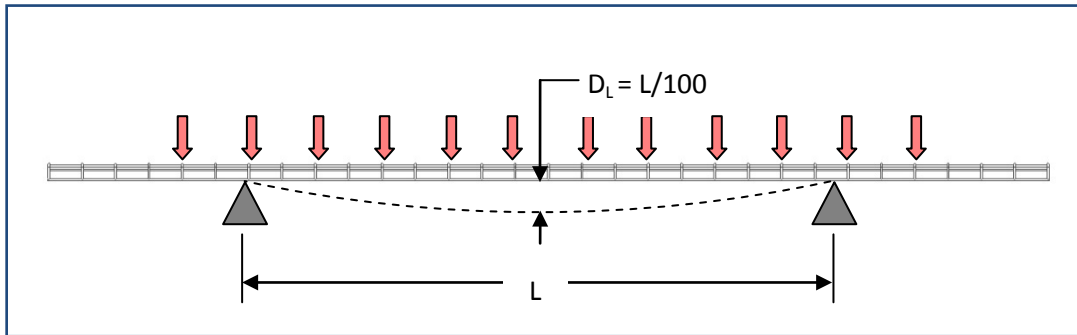
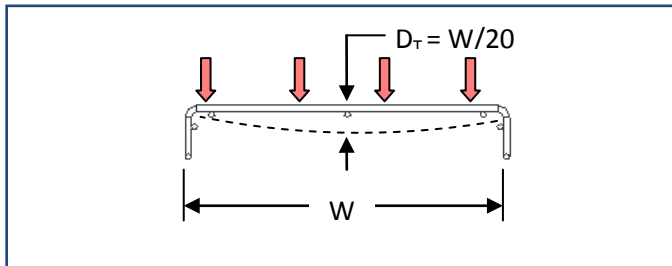
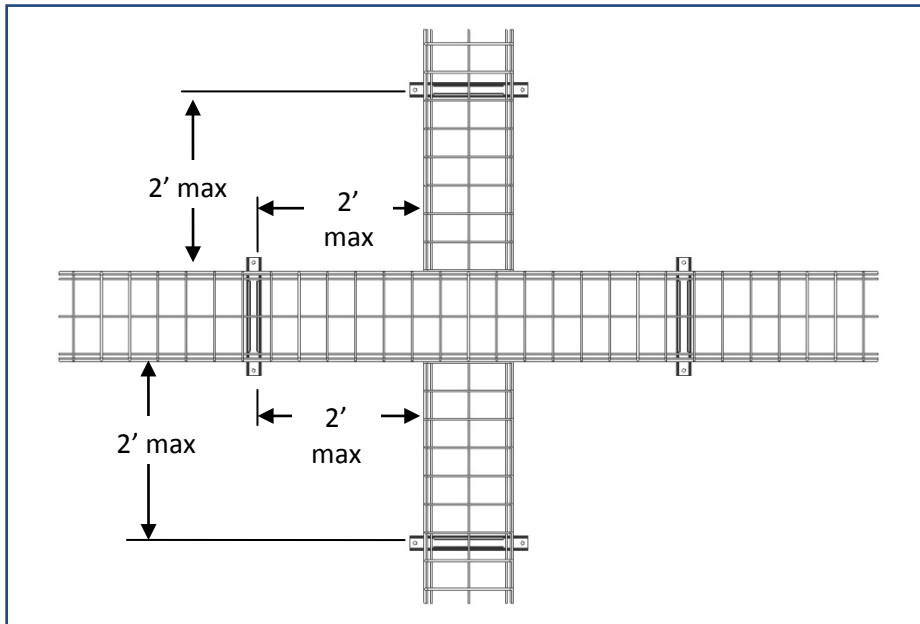
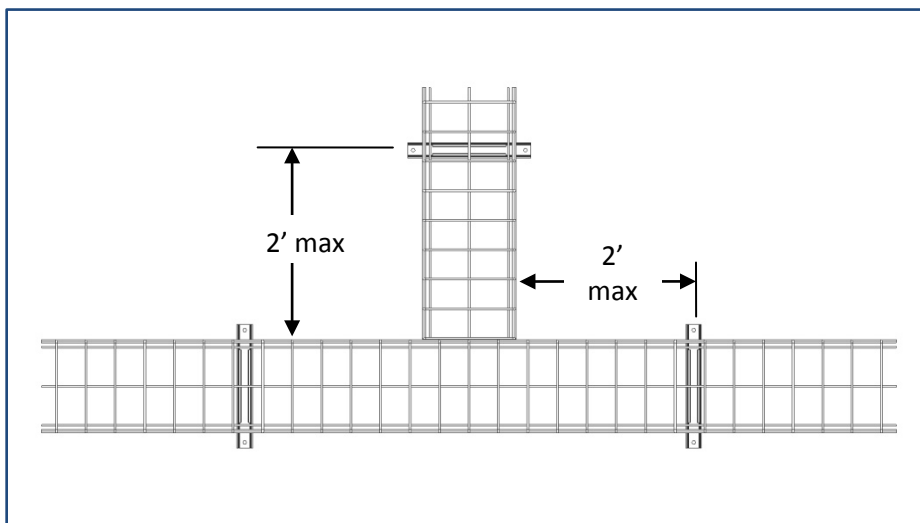

Figure 1: SWL Test Schematic, Side View
Figure 2: Transverse Deflection Schematic of Cable Tray, End View
Figure 6: Support Recommendation for Horizontal Cross Intersections, Top View
Figure 7: Support Recommendation for Horizontal Tee Intersections, Top View
Limits on deflection from cable loading are set forth in EN 61537:2007. The safe working load (SWL) is the evenly distributed load at which the transverse deflection of the cable tray is less than 1/100th of the span between supports in the longitudinal direction, as shown in Figure 1. Furthermore, the transverse deflection at the SWL must be less than 1/20th of the cable tray width at the SWL, as shown in Figure 2.
- Cable Tray only (no splices, see Figure 1)
- Cross (see Figure 6) and T Intersections (see Figure 7)
Typically, wire basket has a sidewall that must be removed to create intersections which significantly reduces the strength of the product. The downward sidewall (see Figure 2) of the Wyr-Grid® Cable Tray allows intersections to be constructed without sidewall removal, maintaining the integrity of the tray. Figures 6 and 7 show support recommendations for making intersections.